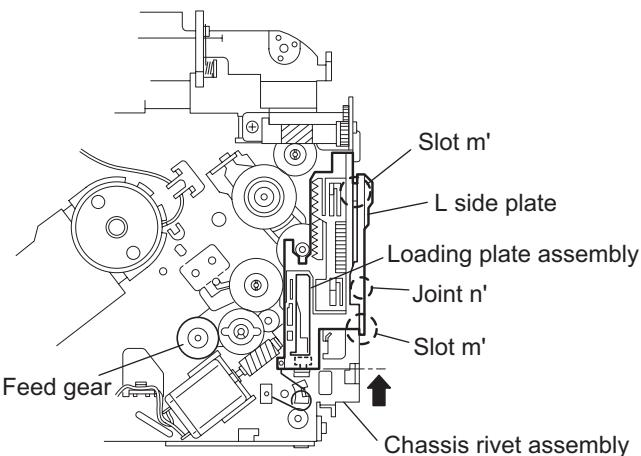
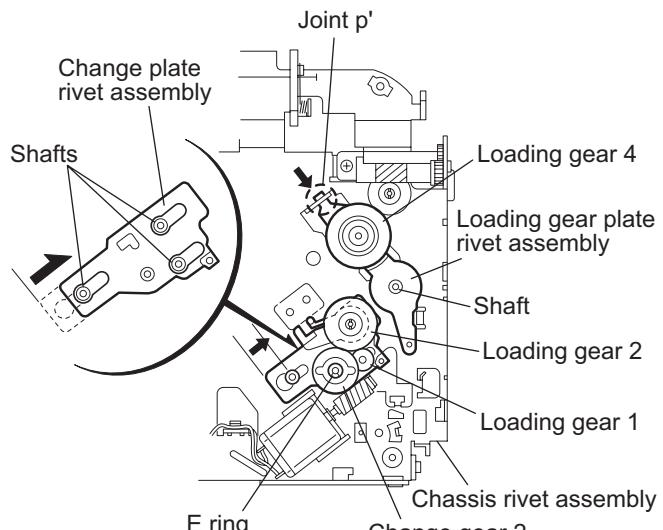

Fig.37
Fig.38
(See Figs.37 to 40)
- (1) Pull out the feed gear.
- (2) Move the loading plate assembly in the direction of the arrow to release the L side plate from the two slots m' of the chassis rivet assembly. (See Fig.37.)
- (3) Detach the loading plate assembly upward from the chassis rivet assembly while releasing the joint n'. Remove the slide hook and loading plate spring from the loading plate assembly.
- (4) Pull out the loading gear 2 and remove the change lock lever.
- (5) Remove the E ring and washer attaching the changer gear 2.
- (6) The changer gear 2, change gear spring and adjusting washer come off.
- (7) Remove the loading gear 1.
- (8) Move the change plate rivet assembly in the direction of the arrow to release from the three shafts of the chassis rivet assembly upward. (See Fig.38.)
- (9) Detach the loading gear plate rivet assembly from the shaft of the chassis rivet assembly upward while releasing the joint p'. (See Figs.38 and 40.)
- (10) Pull out the loading gear 4.